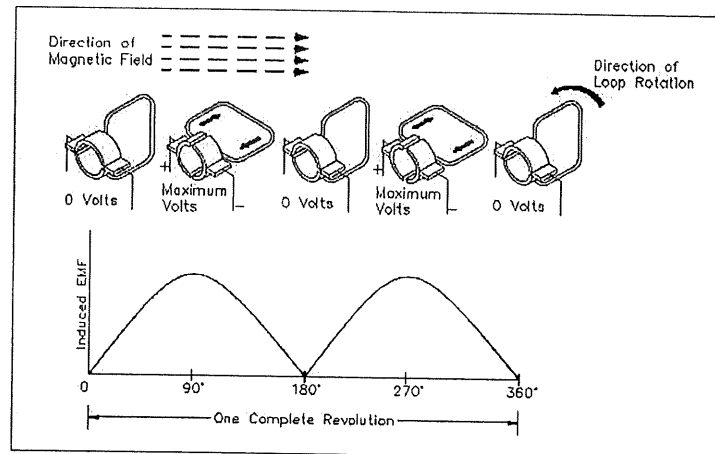

Figure 1
- a) Describe the commutation action process in DC machine based on Figure 1. (7 marks)